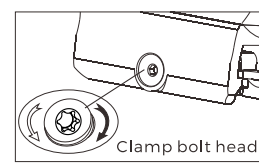

Fig4-2
1) There is one Torx socket at the end of clamp adjusting bolt on the side of the mount. (See Fig 4-2) Before installation, loosen the